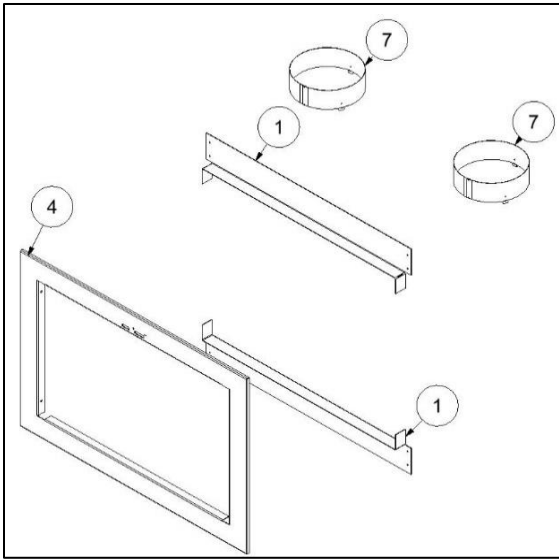
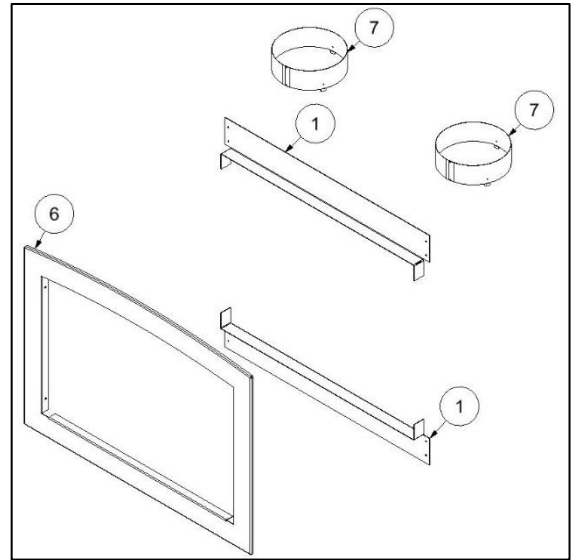
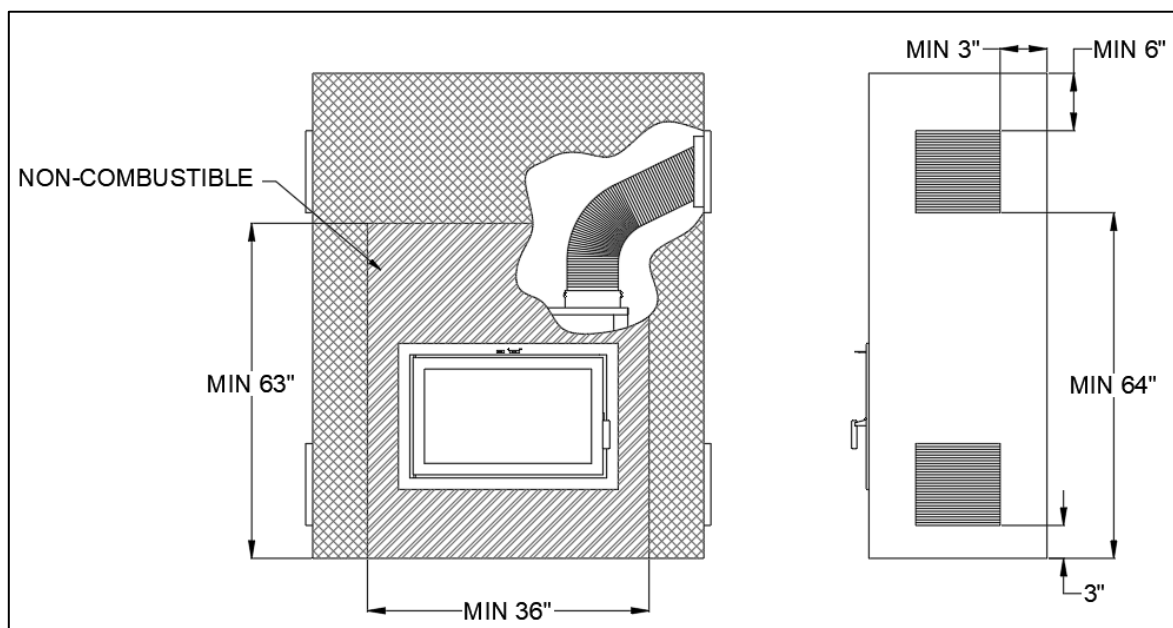

Figure 3-15: Clean Face Rectangular Surround Components
Figure 3-16: Clean Face Arched Surround Components
Figure 3-23: Clean Face Chase
The Clean Face surround comprises no louvers; however, an intake into the chase and an outtake through gravity ducts is required for this configuration. The instructions below describe the installation of the Clean Face surround. Refer to Figures 3-15 and 3-16 and Tables 3-4 and 3-5 for the instructions below. Refer to Section 3.4 for Gravity Kit installation instructions.
4. Place the surround (Item 4 in Figure 3-15 or Item 6 in Figure 3-16) within the door holder and secure it in place with 4 black screws (one on each corner). Make sure that the handles of the Combustion Air Control pass through the slots of the surround.
10. Install the 8 inch duct adapters (Item 7 in Figures 3-15 and 3-16) through the newly cut knockouts and screw them to the bent tabs (Figure 3-19).
1. Remove the two 8" knockouts (2) at the top of the unit using a flat head screwdriver.
3. Install the 8 inch flange adapters (Item 7 in Figures 3-15 and 3-16) through the newly cut knockouts and screw them to the top of the unit. Make sure to bend the tabs of the adapters before installation.
4. Determine the two locations of the air intakes on the chase and cut a rectangular opening 10.5" (W) X 9.5" (H). Note that a distance of 3" is required from the floor.
5. Determine the two locations of the air outtakes on the chase and cut a rectangular opening 10.5" (W) X 9.5" (H). Note that a minimum distance of 64" is required from the floor and a minimum of 6" is required from the ceiling (Figure 3-23). Please note that the air outtake grilles can be installed in the same room or in different rooms from each other.
For the Clean Face surround option, two intake and two outtake openings must be constructed onto the chase. Refer to Figure 3-23 for minimum clearances.